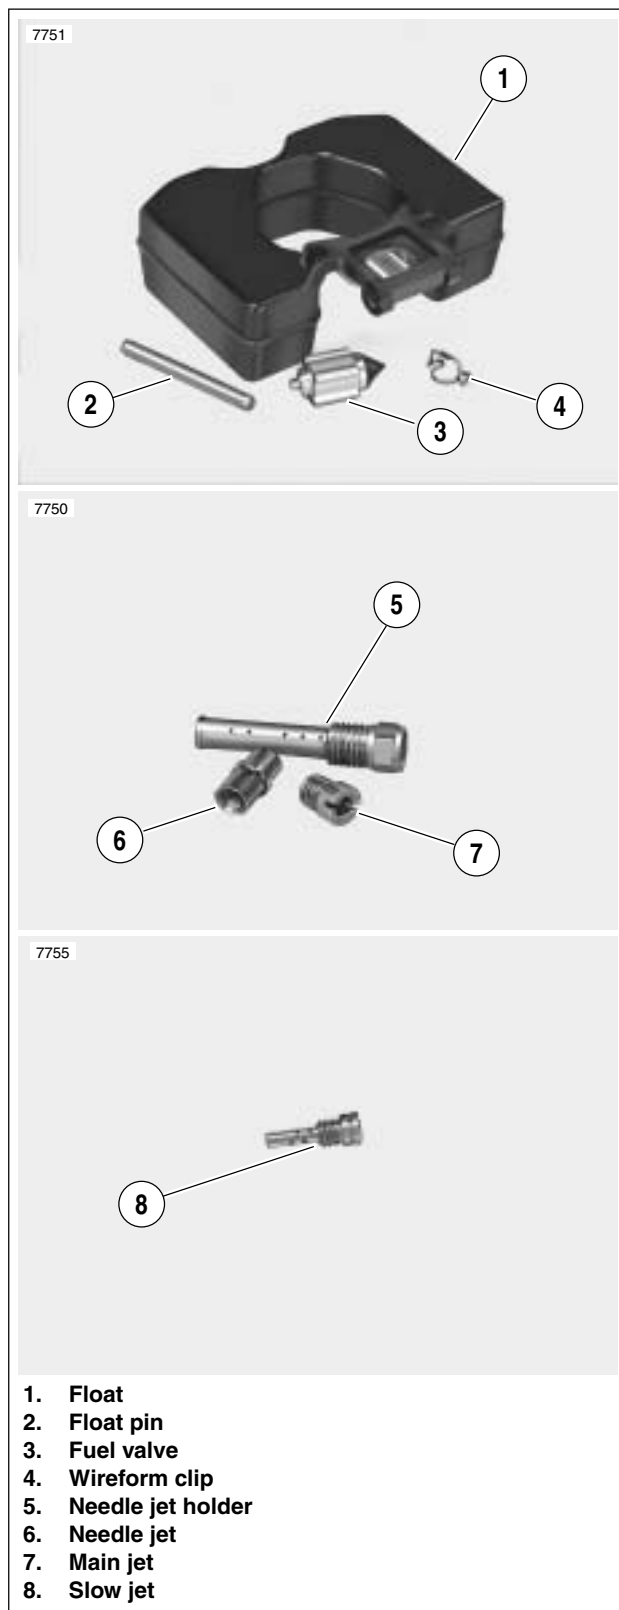

Figure 4-13. Carburetor- Bottom End
3. See Figure 4-13. Remove float (1) and fuel valve (3). Carefully slide clip (4) and fuel valve (3) from tab on float (1). Remove wireform clip (4) from groove in fuel valve (3).
6. See Figure 4-13. Turn carburetor right side up to drop out needle jet, which is loose in main jet bore.
1. See Figure 4-13. Thoroughly clean all loose parts with carburetor cleaner. Blow dry using low pressure compressed air.
1. See Figure 4-13. Insert slow jet into slow jet bore. Insert thin bladed flat tip screwdriver into bore, and using slot at top of slow jet, tighten until snug.